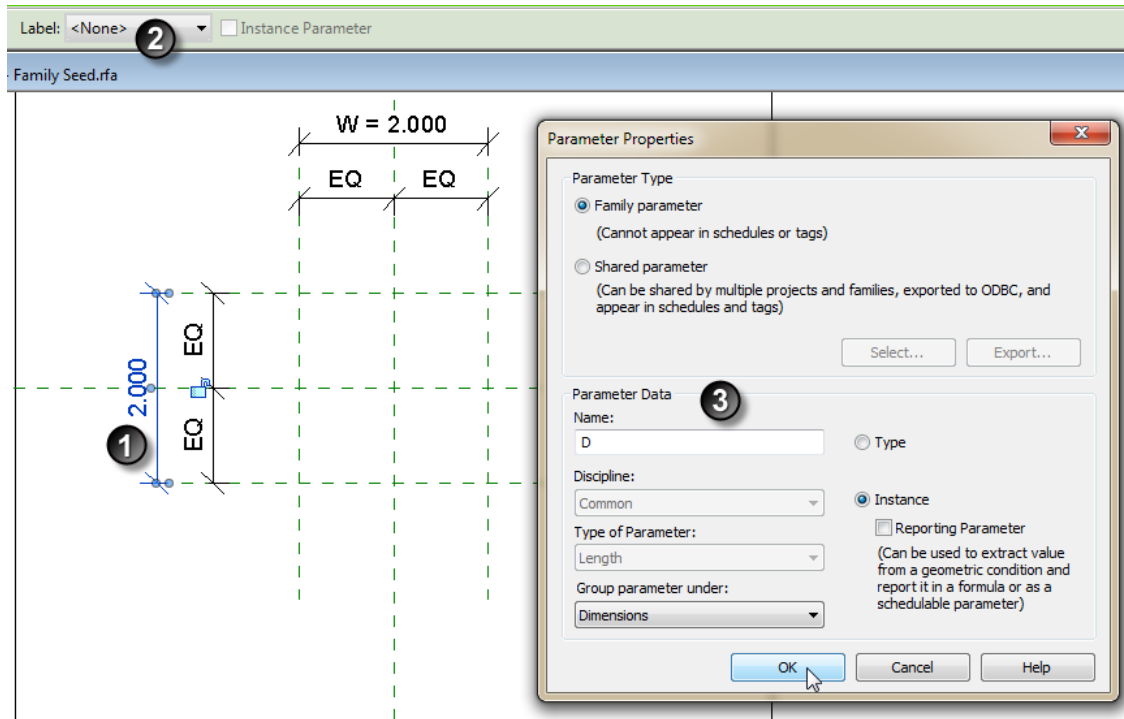

Figure 4—Create and assign parameters
6. Select the horizontal dimension and label it with a new Instance-based parameter named: **D** (see Figure 4).